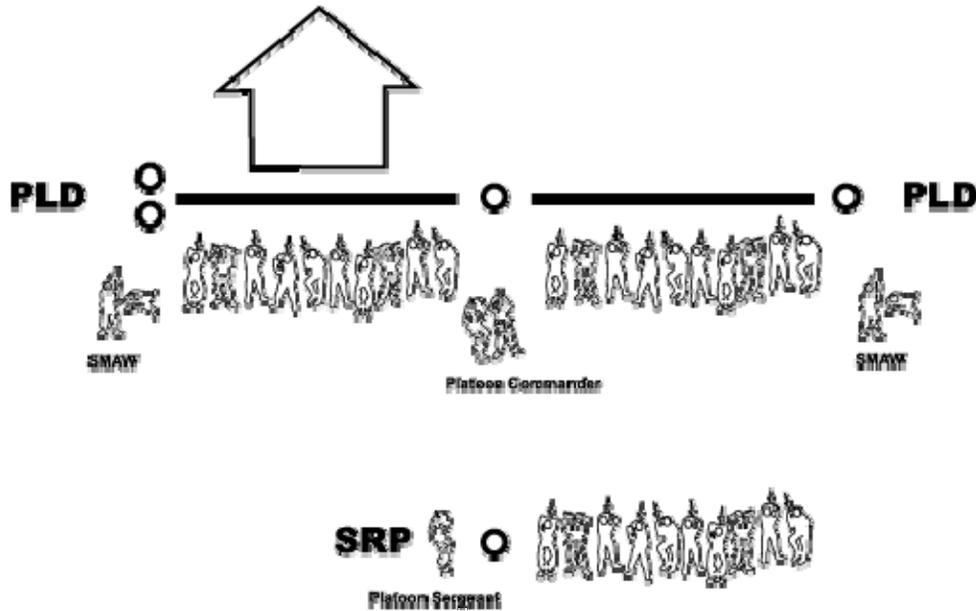

Figure 2. Loaded Platoon PLD.
- c. 60-meter Platoon PLD 'T' supports two squads on-line for a linear assault. Third squad deploys on right (or left) side of Squad RP as follow-and-support element. *See Figure 2.*